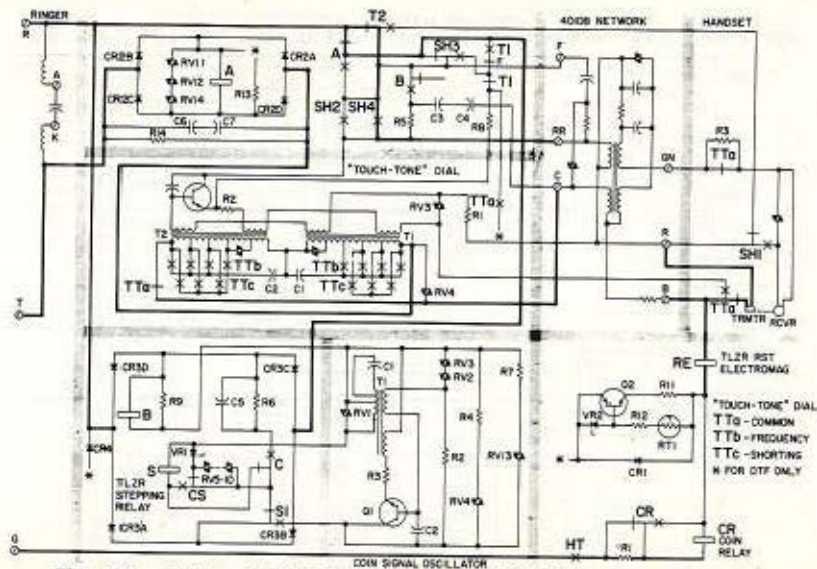

Fig. 28 - 1C2 and 2C2 Coin-First Coin Telephone Sets, Schematic
- Fig. 28 — 1C2 and 2C2 Coin-First Coin Telephone sets, Schematic